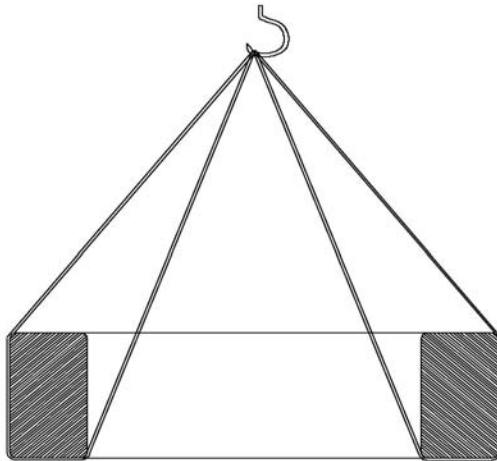

Figure 1
Wrap the slings around the BCT at two (2) places as shown in Figure 1. Refer to the outline drawing for weight and dimensions.